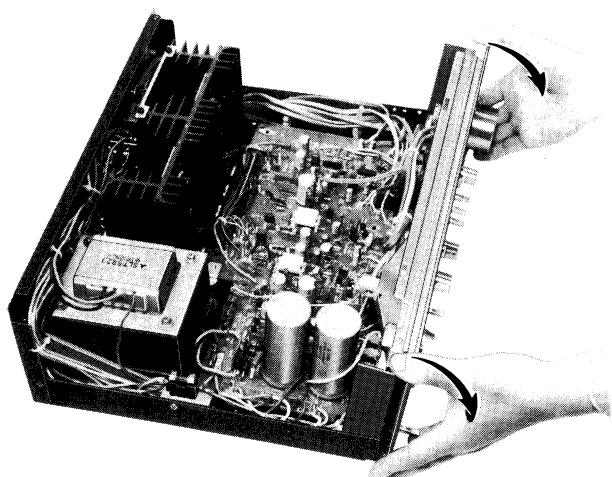

Fig. 3
8. As photo in Fig. 3, hold the panel at its side ends and push it downward tilting slightly its top part to the frontward direction.